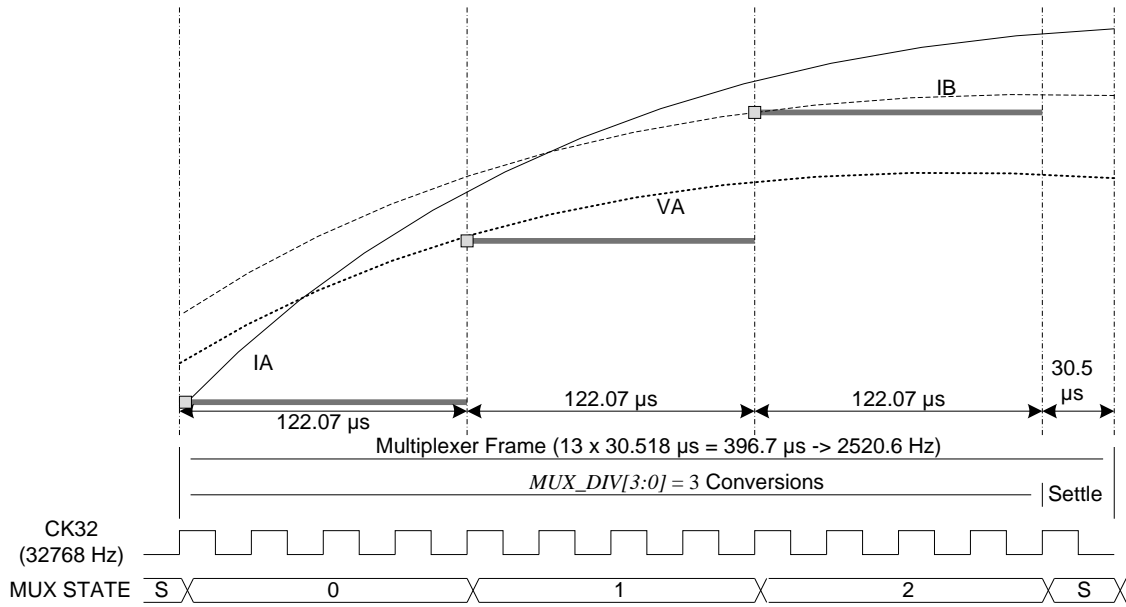
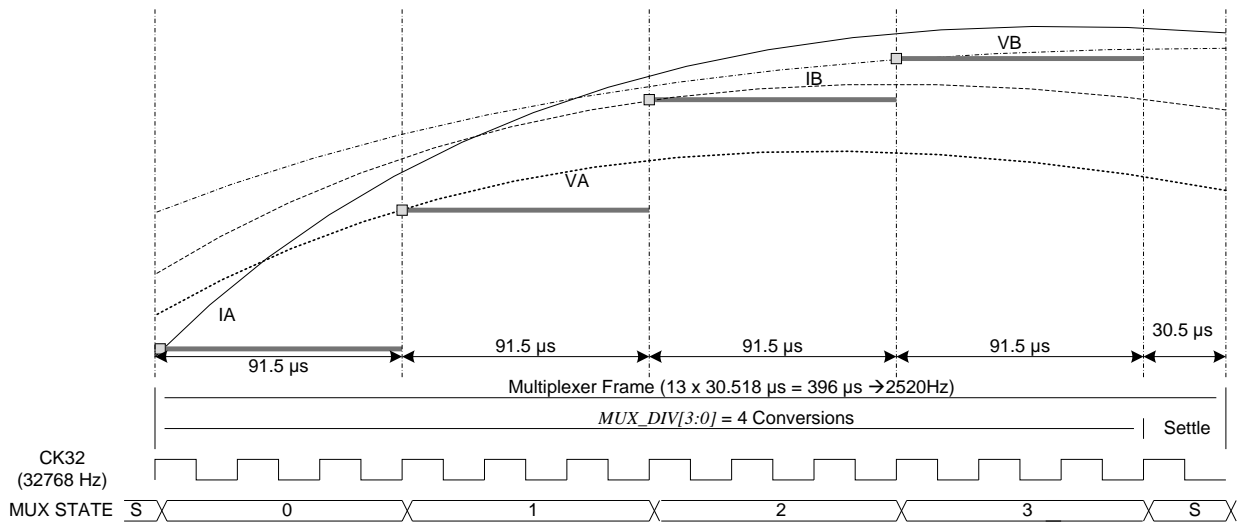

Figure 14: Samples from Multiplexer Cycle ($MUX_DIV[3:0] = 3$)
Figure 15: Samples from Multiplexer Cycle ($MUX_DIV[3:0] = 4$)
Figure 14 (71M6541D/F) and Figure 15 (71M6542F) show the sampling sequence when both current sensors (IA and IB) are connected directly to the 71M6541D/F as seen in Figure 2. However, when the IB
Referring to Figure 15, the 71M6542F features an additional voltage input (VB) permitting the implementation of a two-phase meter. As with VA, the VB voltage divider is directly connected to the 71M6542F and uses the ADC and multiplexer facilities in the 71M6542F. $MUX_DIV[3:0] = 4$ configures the multiplexer to provide an additional time slot to accommodate the additional VB voltage sample. As with the 71M6541D/F, IA samples are obtained from a current sensor that is directly connected to the 71M6542F, while IB samples may be obtained from a directly connected CT or a remotely connected shunt using a 71M6x01 isolated device as seen in Figure 2 and Figure 3.